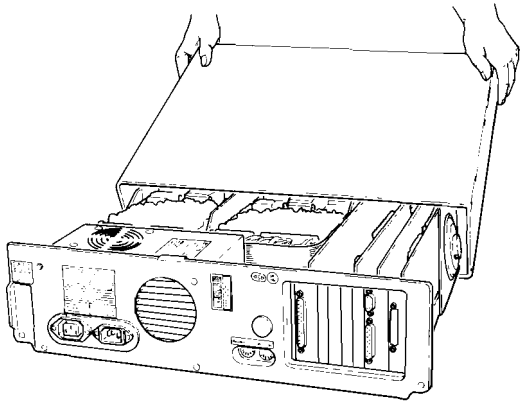

Figure 2.11. IBM PC Cover Removal
- Slide the cover toward the front until it will go no further (Figure 2.11).